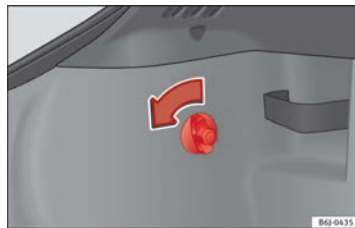

Fig. 177 Access to tail lights.
- Turn the bolt in the direction of the arrow, by hand or with a screwdriver ⇒ Fig. 177.
- Remove the connector from housing (A) ⇒ Fig. 177.